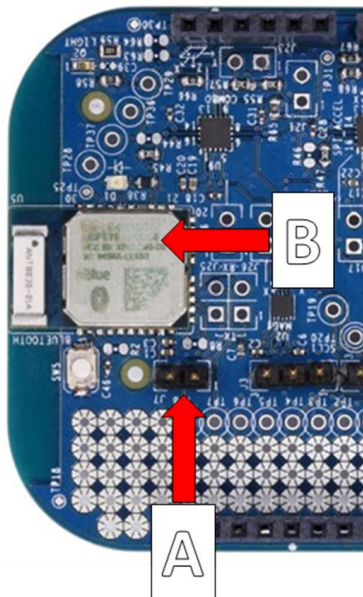

Fig 21. Key features on the FRDM-FXS-MULT2-B
5. Power up your sensor board. Ensure that the power jumper next to the Bluetooth module is installed ("A" in Fig 21).
6. FRDM-FXS-MULTI-B and FRDM-FXS-MULT2-B boards utilize Bluetooth modules from BlueRadios. Note the last six digits on the second line of the radio module ("B" in Fig 21).